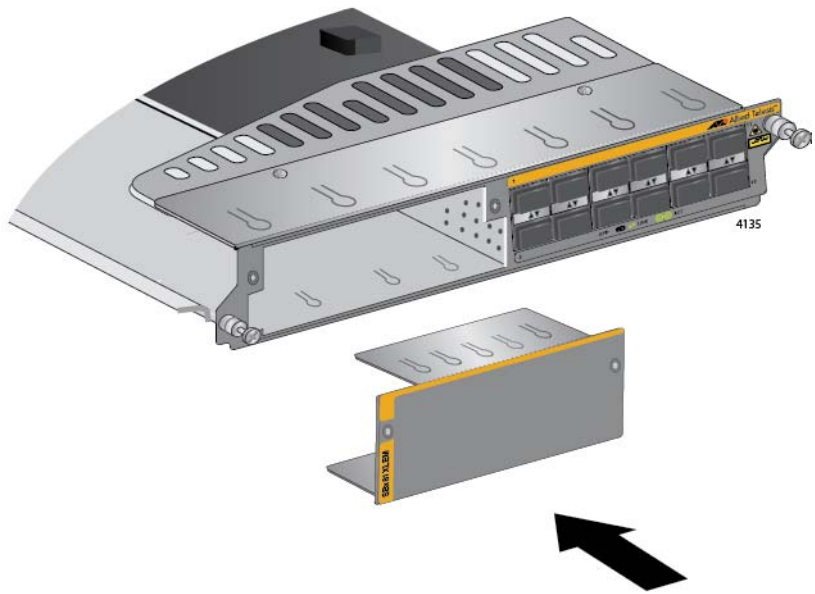

Figure 187. Sliding the Blank Slot Cover into the AT-SBx81XLEM Line Card
9. Slide the blank slot cover that comes with the line card into the expansion modules slot on the card. Refer to Figure 187 on page 305.